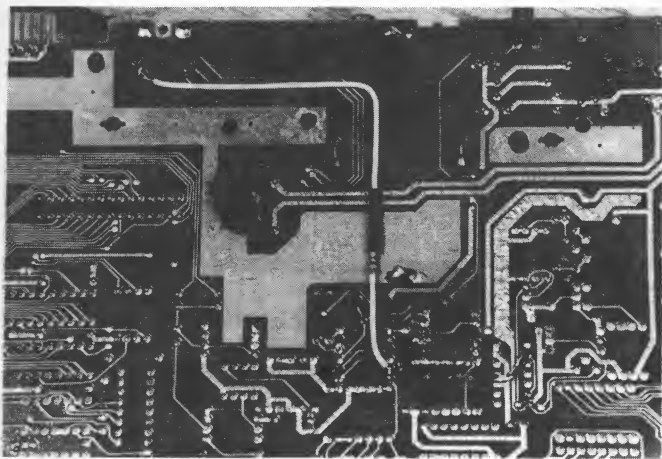

Figure 7. Foil side of 800XL motherboard showing Chroma pick-off resistor
Step 7. Now we'll install the chrominance pick-off resistor. Select a 100-ohm resistor (brown-black-brown-gold), and to one end of it apply a length of insulation (stripped from wire) leaving only 1/8" of the lead exposed. Cut a 5" length of wire and strip 1/4" insulation from each end, then solder this wire to the uninsulated end of the resistor. Now experiment a little to find the smallest diameter heatshrink tubing that will fit over both the solder bulge and the resistor body, then snip off a length sufficient to cover the bare lead from the resistor body to the solder junction plus an extra 1/4" to overlap both ends. Slip the tubing into place, then warm it by holding the assembly 1/4" above your hot soldering iron while slowly rotating it for even heating. The tubing will contract to make a neatly insulated assembly (see Fig. 7). DO NOT use tape to insulate this resistor!